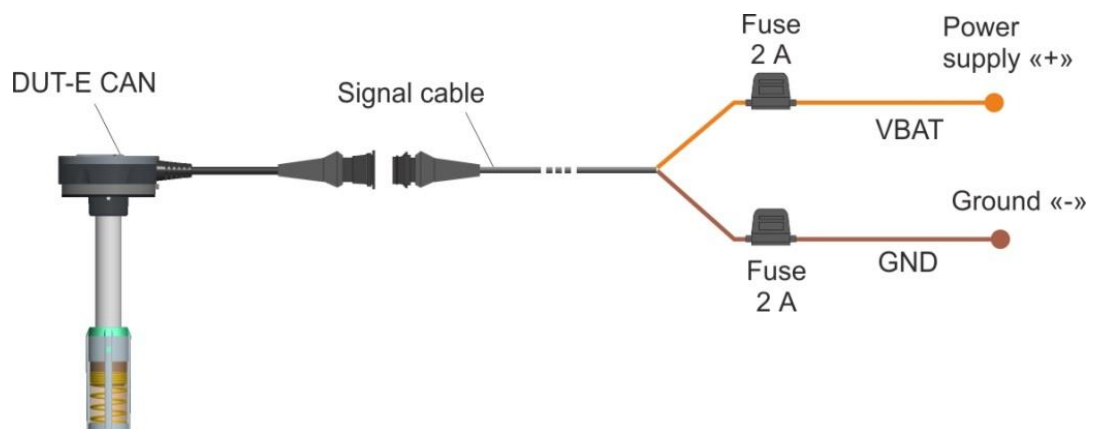

Figure 31 – Sensor to onboard electrical network scheme of connection
- 3) When connecting DUT-E CAN to onboard electrical network of Vehicle, use **fuses** from delivery set in accordance to scheme of connection (see figure 31). Nominal fuse current is not more than 2 A.